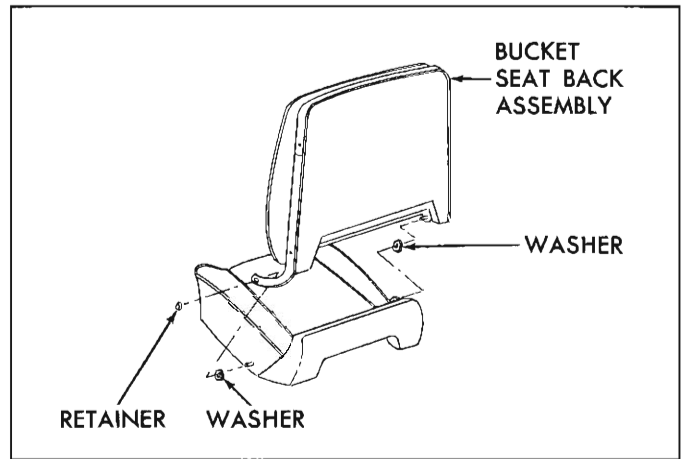

Fig. 48—Bucket Seat Back Removal
2. On all styles, using a flat bladed tool, carefully remove retainer from outer hinge pin (fig. 48).
5. To install, reverse removal procedure. Prior to installation of back assembly, be sure inner and outer washers are installed over the hinge pins (fig. 48).